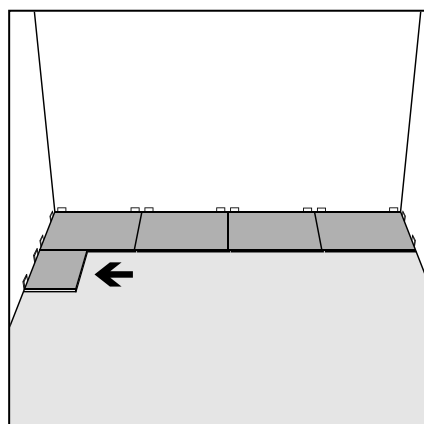

Figure 15 First plank, second row
- > Insert a spacer between the end of the first row and the wall (expansion gap). Start this new row with the leftover piece from the last row (min length 350mm – Fig 15).